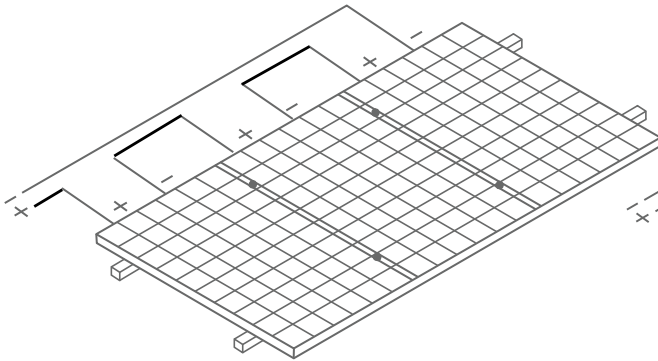

Figure 4 Connection in Series
- It is not allowed to use the Modules in different models in the same solar photovoltaic system. When the Modules are connected in series, the voltage of every string shall not be higher than the maximum voltage of the system (as shown in Figure 4). Reference equation of the maximum number of the Modules in serial connection: maximum system voltage of the module/ (1.25\* open-circuit voltage).